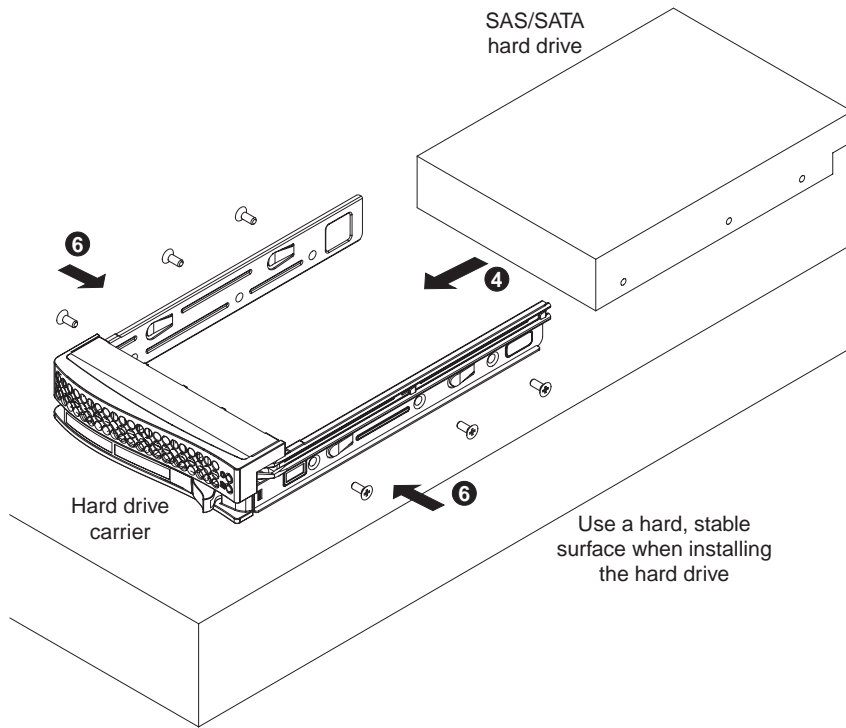

Figure 5-4 Installing a Drive into a Hard Drive Carrier
4. Slide the hard drive into the carrier with the printed circuit board side facing down (see Figure 5-4).
6. Secure the hard drive using all six screws (see Figure 5-4).